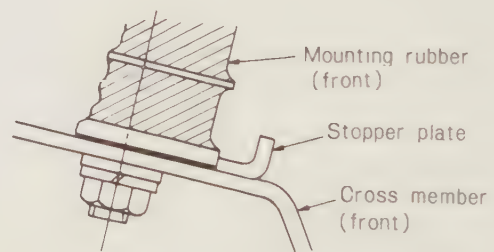

Fig. 1.39. Rear engine mounting rubber (4WD)
- 6 Fit a new rear mounting rubber. Fit the bolt securing the rear mounting rubber to the mounting bracket and tighten it to 14 - 22 lb f ft (2 - 3 kg fm). On 4WD models, fit the rear mounting rubber to the transmission casing with two bolts. Don't forget to fit the plate between the left-hand mounting rubber and the casing, see Fig. 1.39.